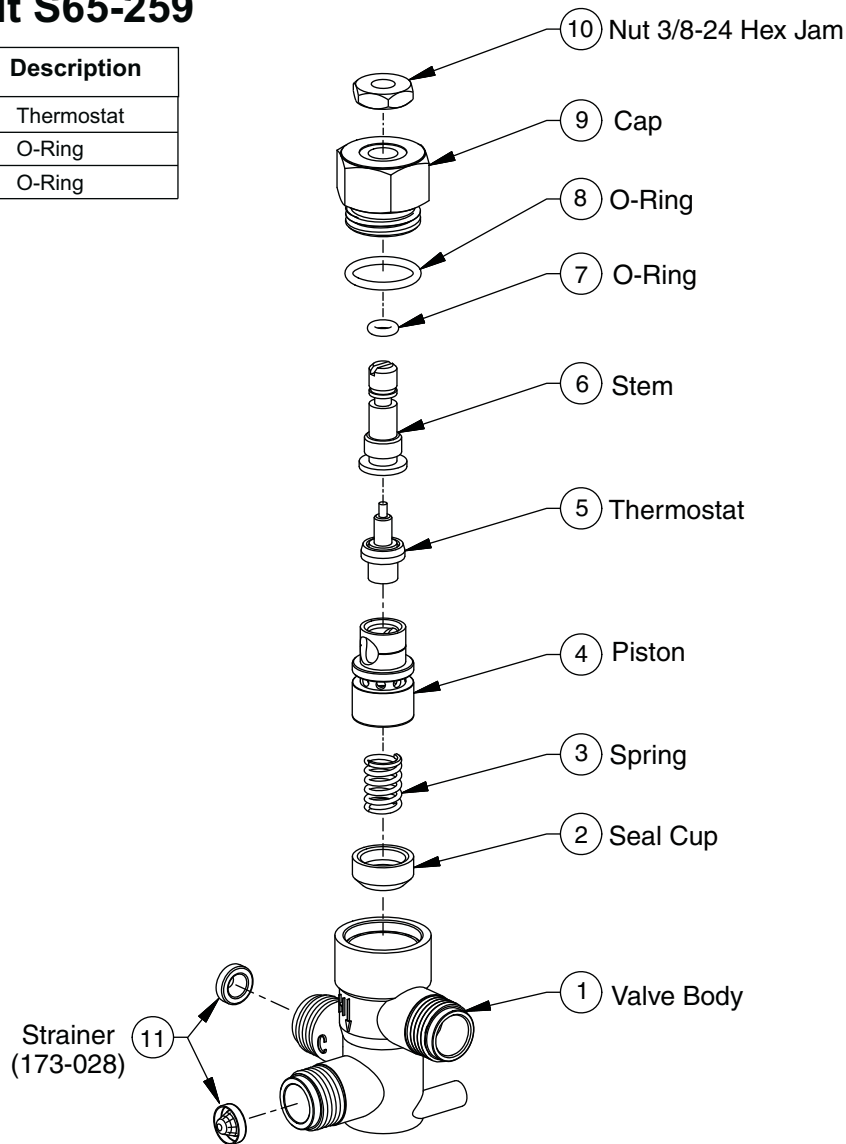

Figure 9
1. Remove and clean strainer (see Figure 9 or 10 on page 14). If strainer needs to be replaced, order Bradley part number 173-028.
1. Remove the valve's cap and thermostat (see Figure 9 on Page 14).